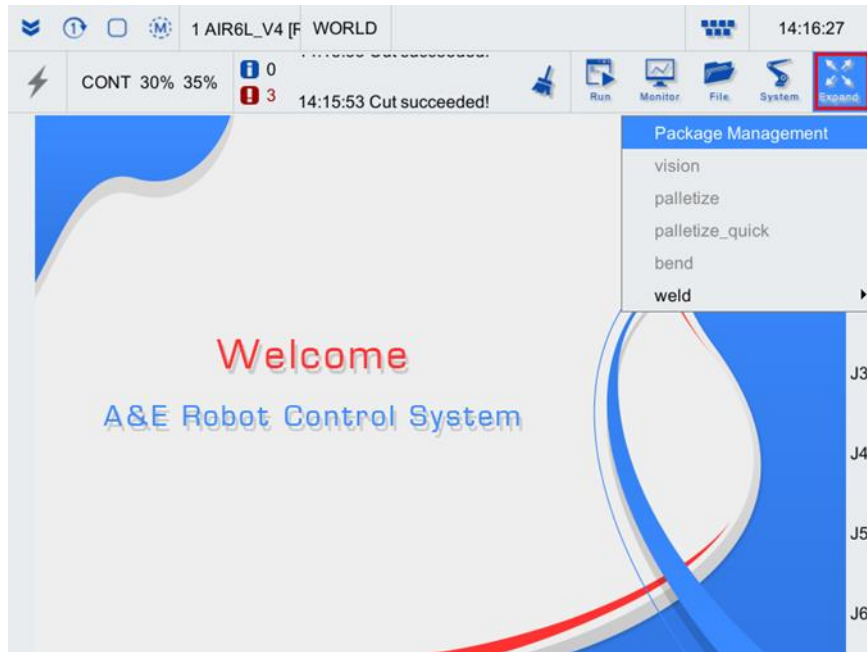

Fig. 3-7 List of feature pack
Step 1. Click the "Expand" button to pop up a drop-down list, as shown in Fig. 3-7.